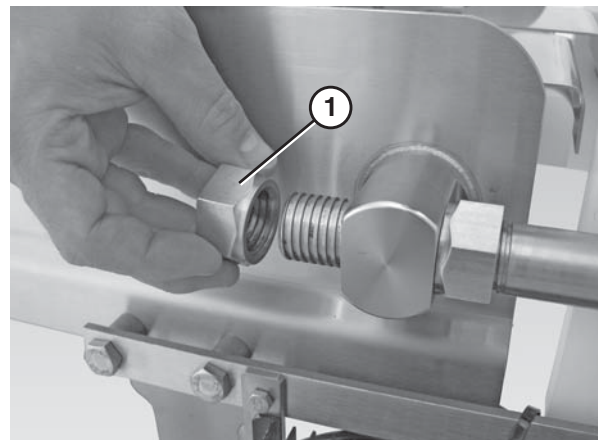

Figure 77
3. Remove the back nuts (Figure 77, item 1) on both discharge nose bar shafts.